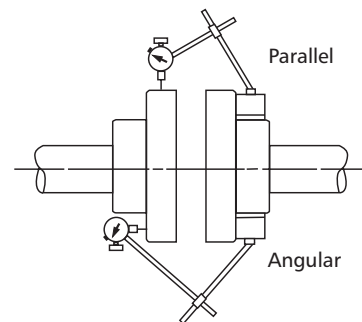

Figure 6
5.2.1. Even though the pump-motor unit may have a factory alignment, this could be disturbed in transit and must be checked prior to running. See Figure 6.